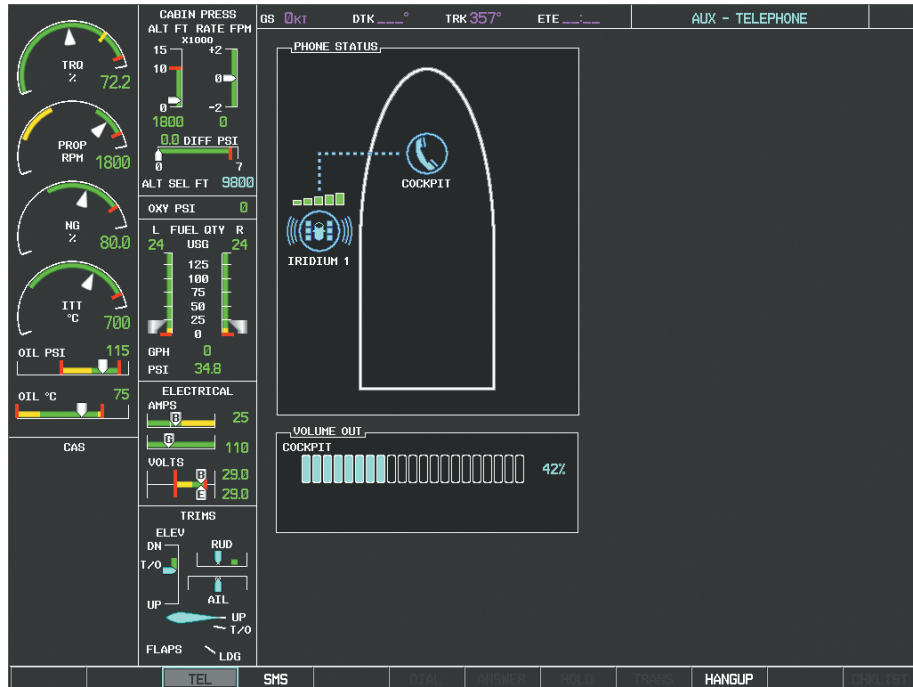

Figure 8-92 System is Making the Connection
- 5) Press the **ENT** Key. The system will begin calling the number, as in Figure 8-92.